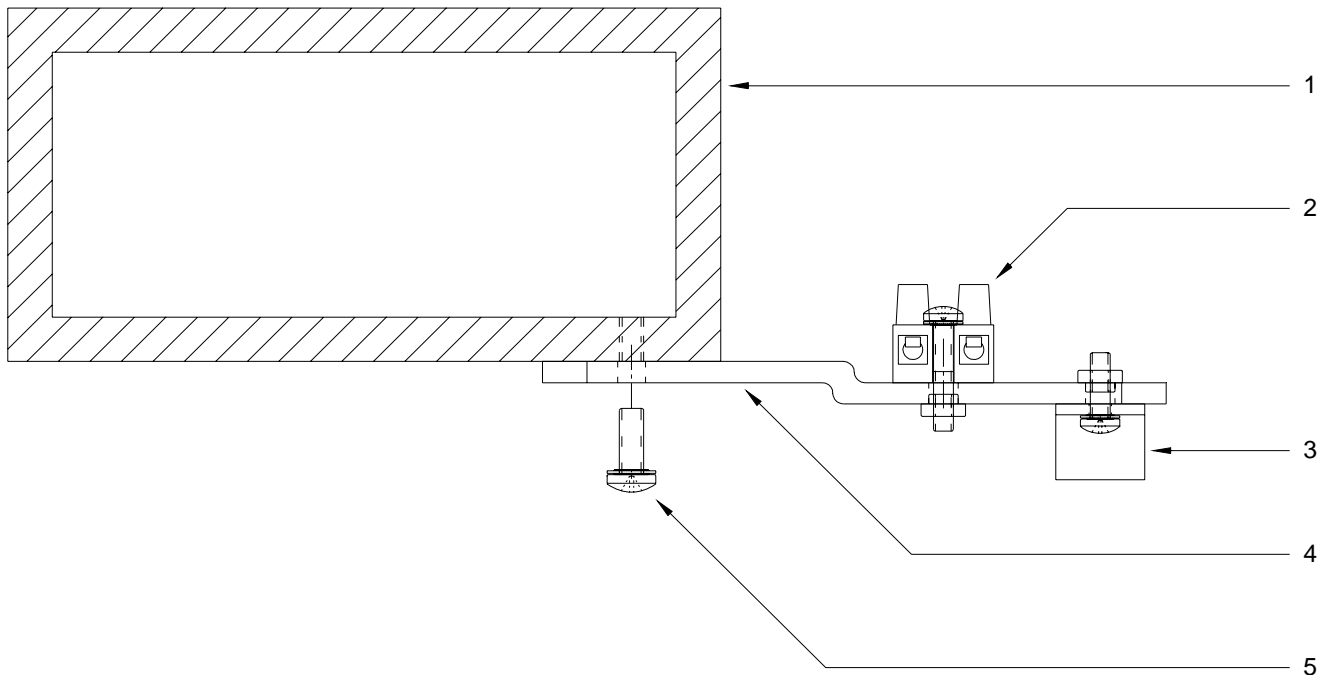

Figure 5-13-b. Replacing Magnetic Sensor
- b. Disconnect the four wires from terminal strip (2).
- c. Remove two screws (5 in Figure 5-13-b) holding the bracket (4) to the upper side frame member (1) and remove the assembly from the Rolloscope.
- d. Remove the magnetic sensor (3) from bracket (4) and install the new sensor.
There are two photo sensors (see Figures 5-13 and 5-13-a) used to keep track of the frame count and to stop the transport band in the correct position.